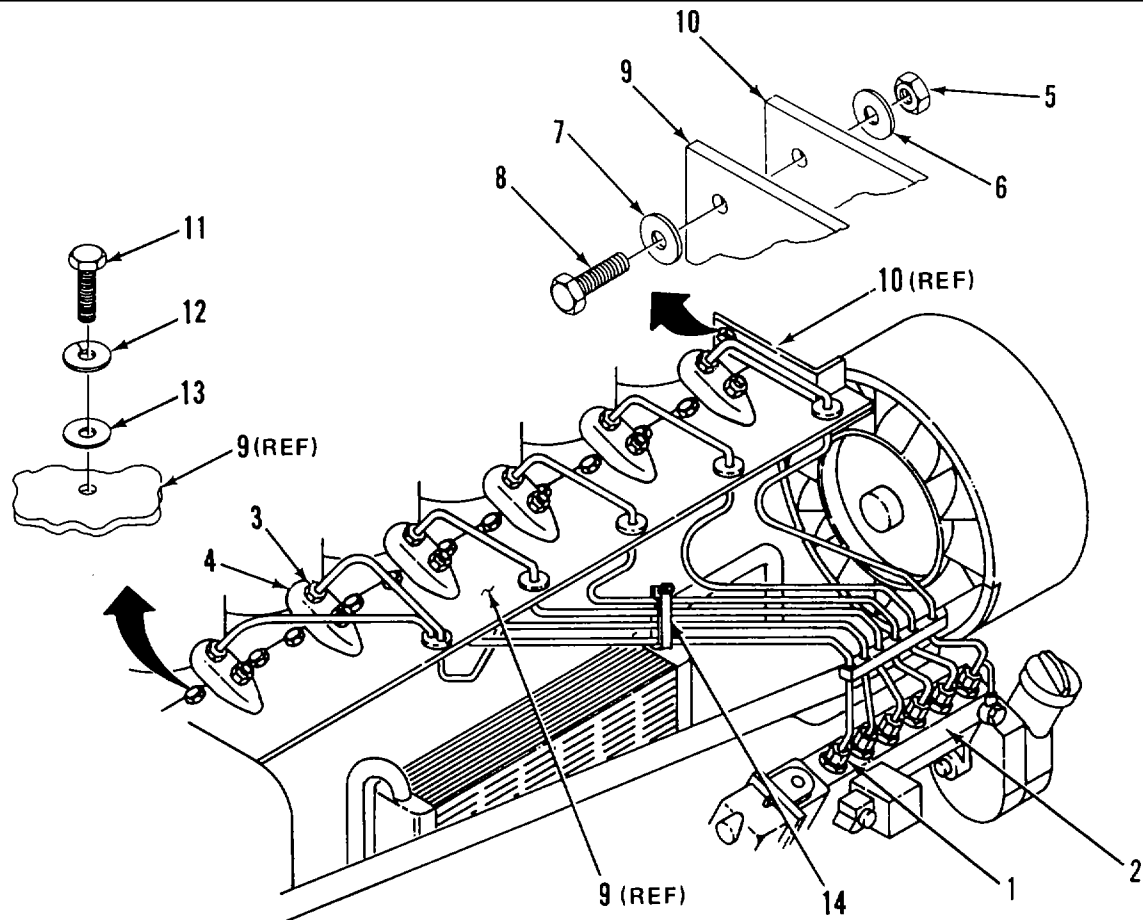

Figure 2-36. Fuel Injector Lines
(1) If all six fuel injection lines are to be removed, perform the following (Figure 2-36):
- (1) If fuel injection lines were removed with cowling mounting plate, install all six fuel injection lines as follows (Figure 2-36):
- (a) Position air cowling plate (9) with fuel injection lines (14) on engine.
- (b) Install two flat washers (13), lockwashers (12), and bolts (11) on each side of the six injectors (4) that secure cowling mounting plate (9).
- (c) Install bolt (8), flat washer (7), flat washer (6), and nut (5) that secure cowling mounting plate (9) to air duct front wall (10).
- (d) Connect but do not tighten fuel injection line nuts (3) to each of the six fuel injectors (4).
- (e) Connect each of the six fuel injection line nuts (1) to the fuel injection pump (2).